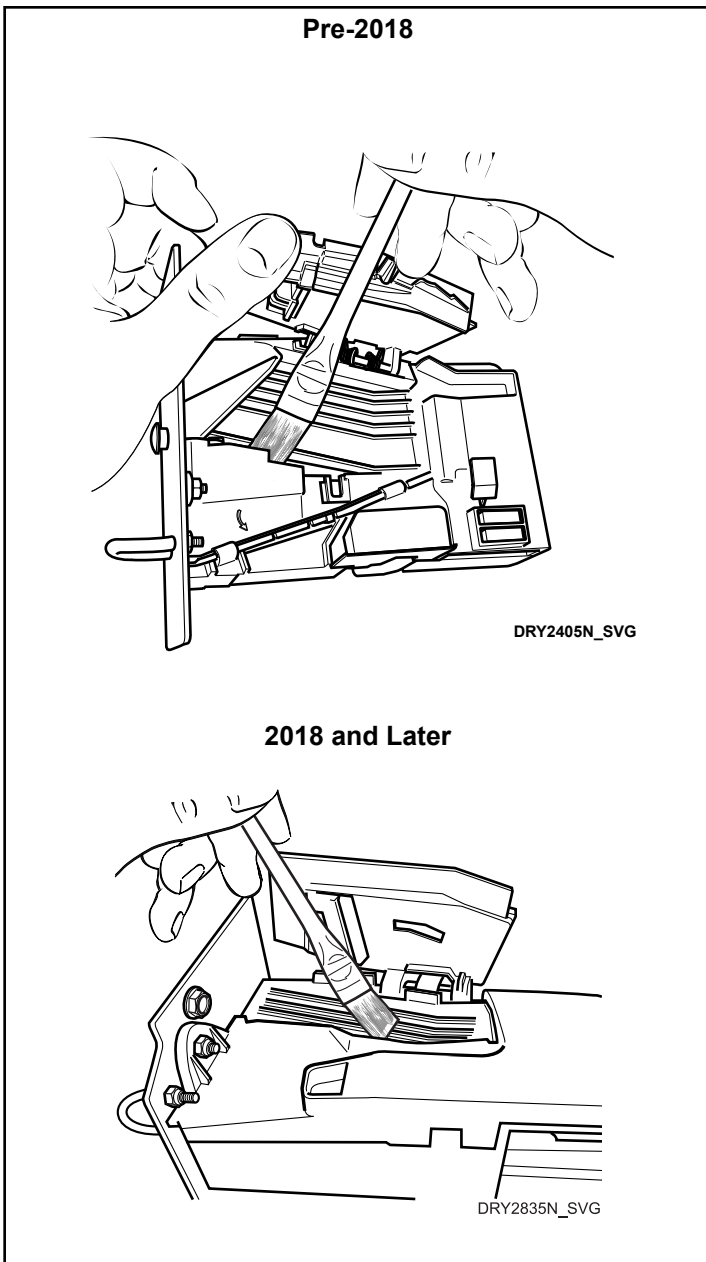

Figure 22
4. Clean the coin path with a soft brush and wipe exposed surfaces with an alcohol moistened lint-free cloth. Refer to *Figure 22*.